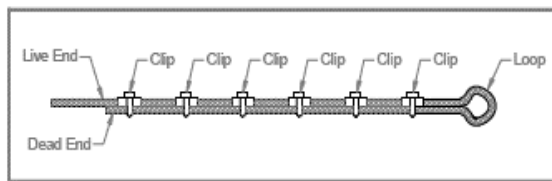

FIGURE 11-3
- Included in the Tie-Down Kit are (2) $\frac{1}{2}$ " diameter by 10' long cables. If this is required:
- Use six (6) cable clamps and clamp the cable together.
- The saddle of the clamp must go over the live portion of the cable (AS SHOWN IN FIG 11-3).